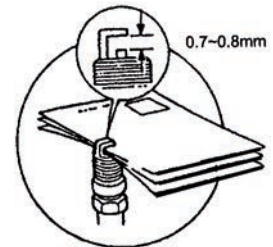

Figure 10
- 4) Measure the electrodes clearance. See Fig.10. The spark plug electrode clearance should be between 0.7-0.8mm. If the clearance exceeds 0.8mm, replace the spark plug with an NGK BPR6HS or equivalent.